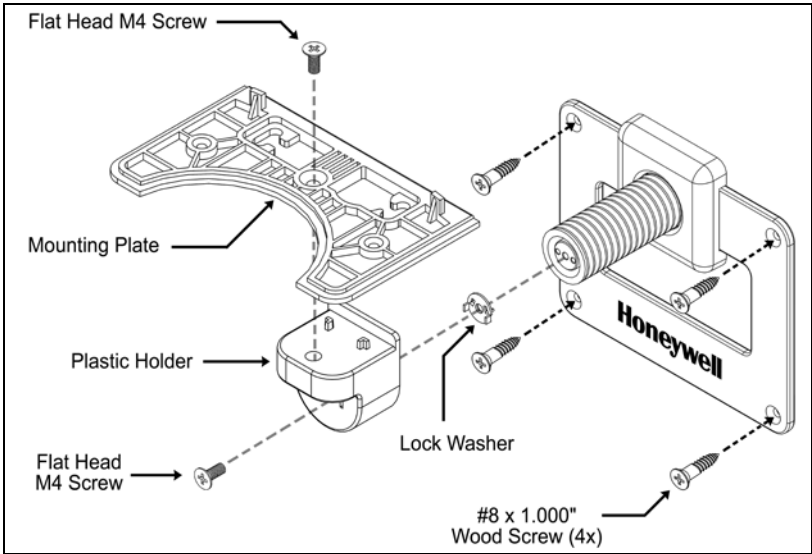

Figure 23. Scanner Mounting Plate Assembly
- Secure the wall mounting plate to the wall location designated in Step 1 and assemble the remaining parts as shown in *Figure 23*.